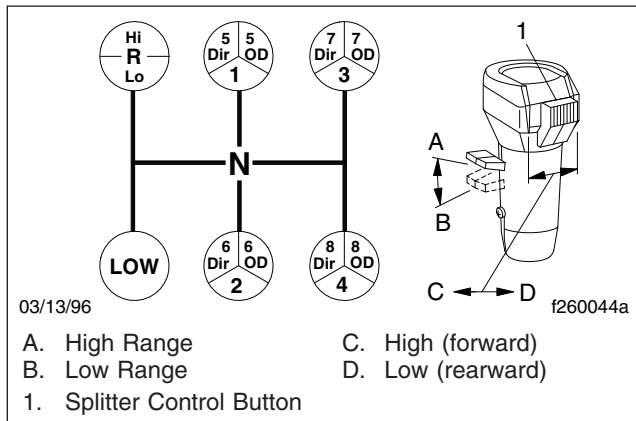

Fig. 14.1, Eaton Fuller 13-Speed Transmission Shift Pattern
Eaton Fuller 13-speed transmissions have thirteen forward speeds and two reverse speeds. Each transmission consists of a 5-speed front section and a 3-speed auxiliary section. The auxiliary section contains low- and high-range ratios, plus a splitter gear. See **Fig. 14.1** for the shift pattern.
3. Make sure the splitter-control button is in the low (rearward) position. See **Fig. 14.1**.